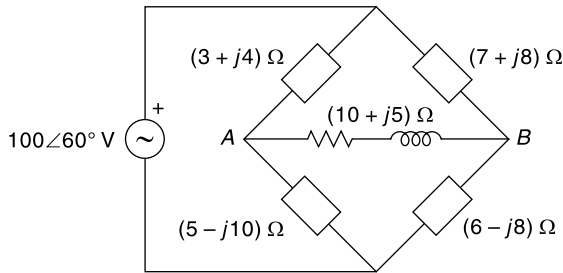

Fig. 6.7 Circuit of Ex. 6.7
6.7 Find the current through the impedance of $(10 + j5) \Omega$ in Fig. 6.7.